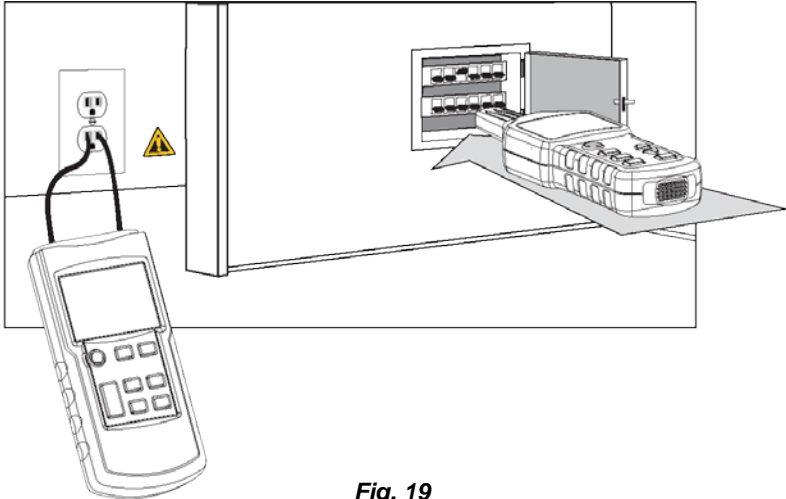

Fig. 19
2. Connect the transmitter as shown in Figure 19.